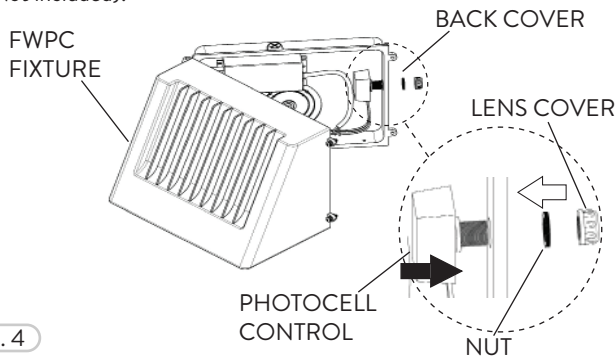

FIG. 4
- 2 Insert the PhotoCell Control through the threaded hole at the side/top of the FWPC fixture Back Cover. Fasten the Nut to secure the PhotoCell Control to the fixture. Fasten the Lens Cover for protection (Fig. 4). Apply sealant to connection for a water tight seal (Not included).